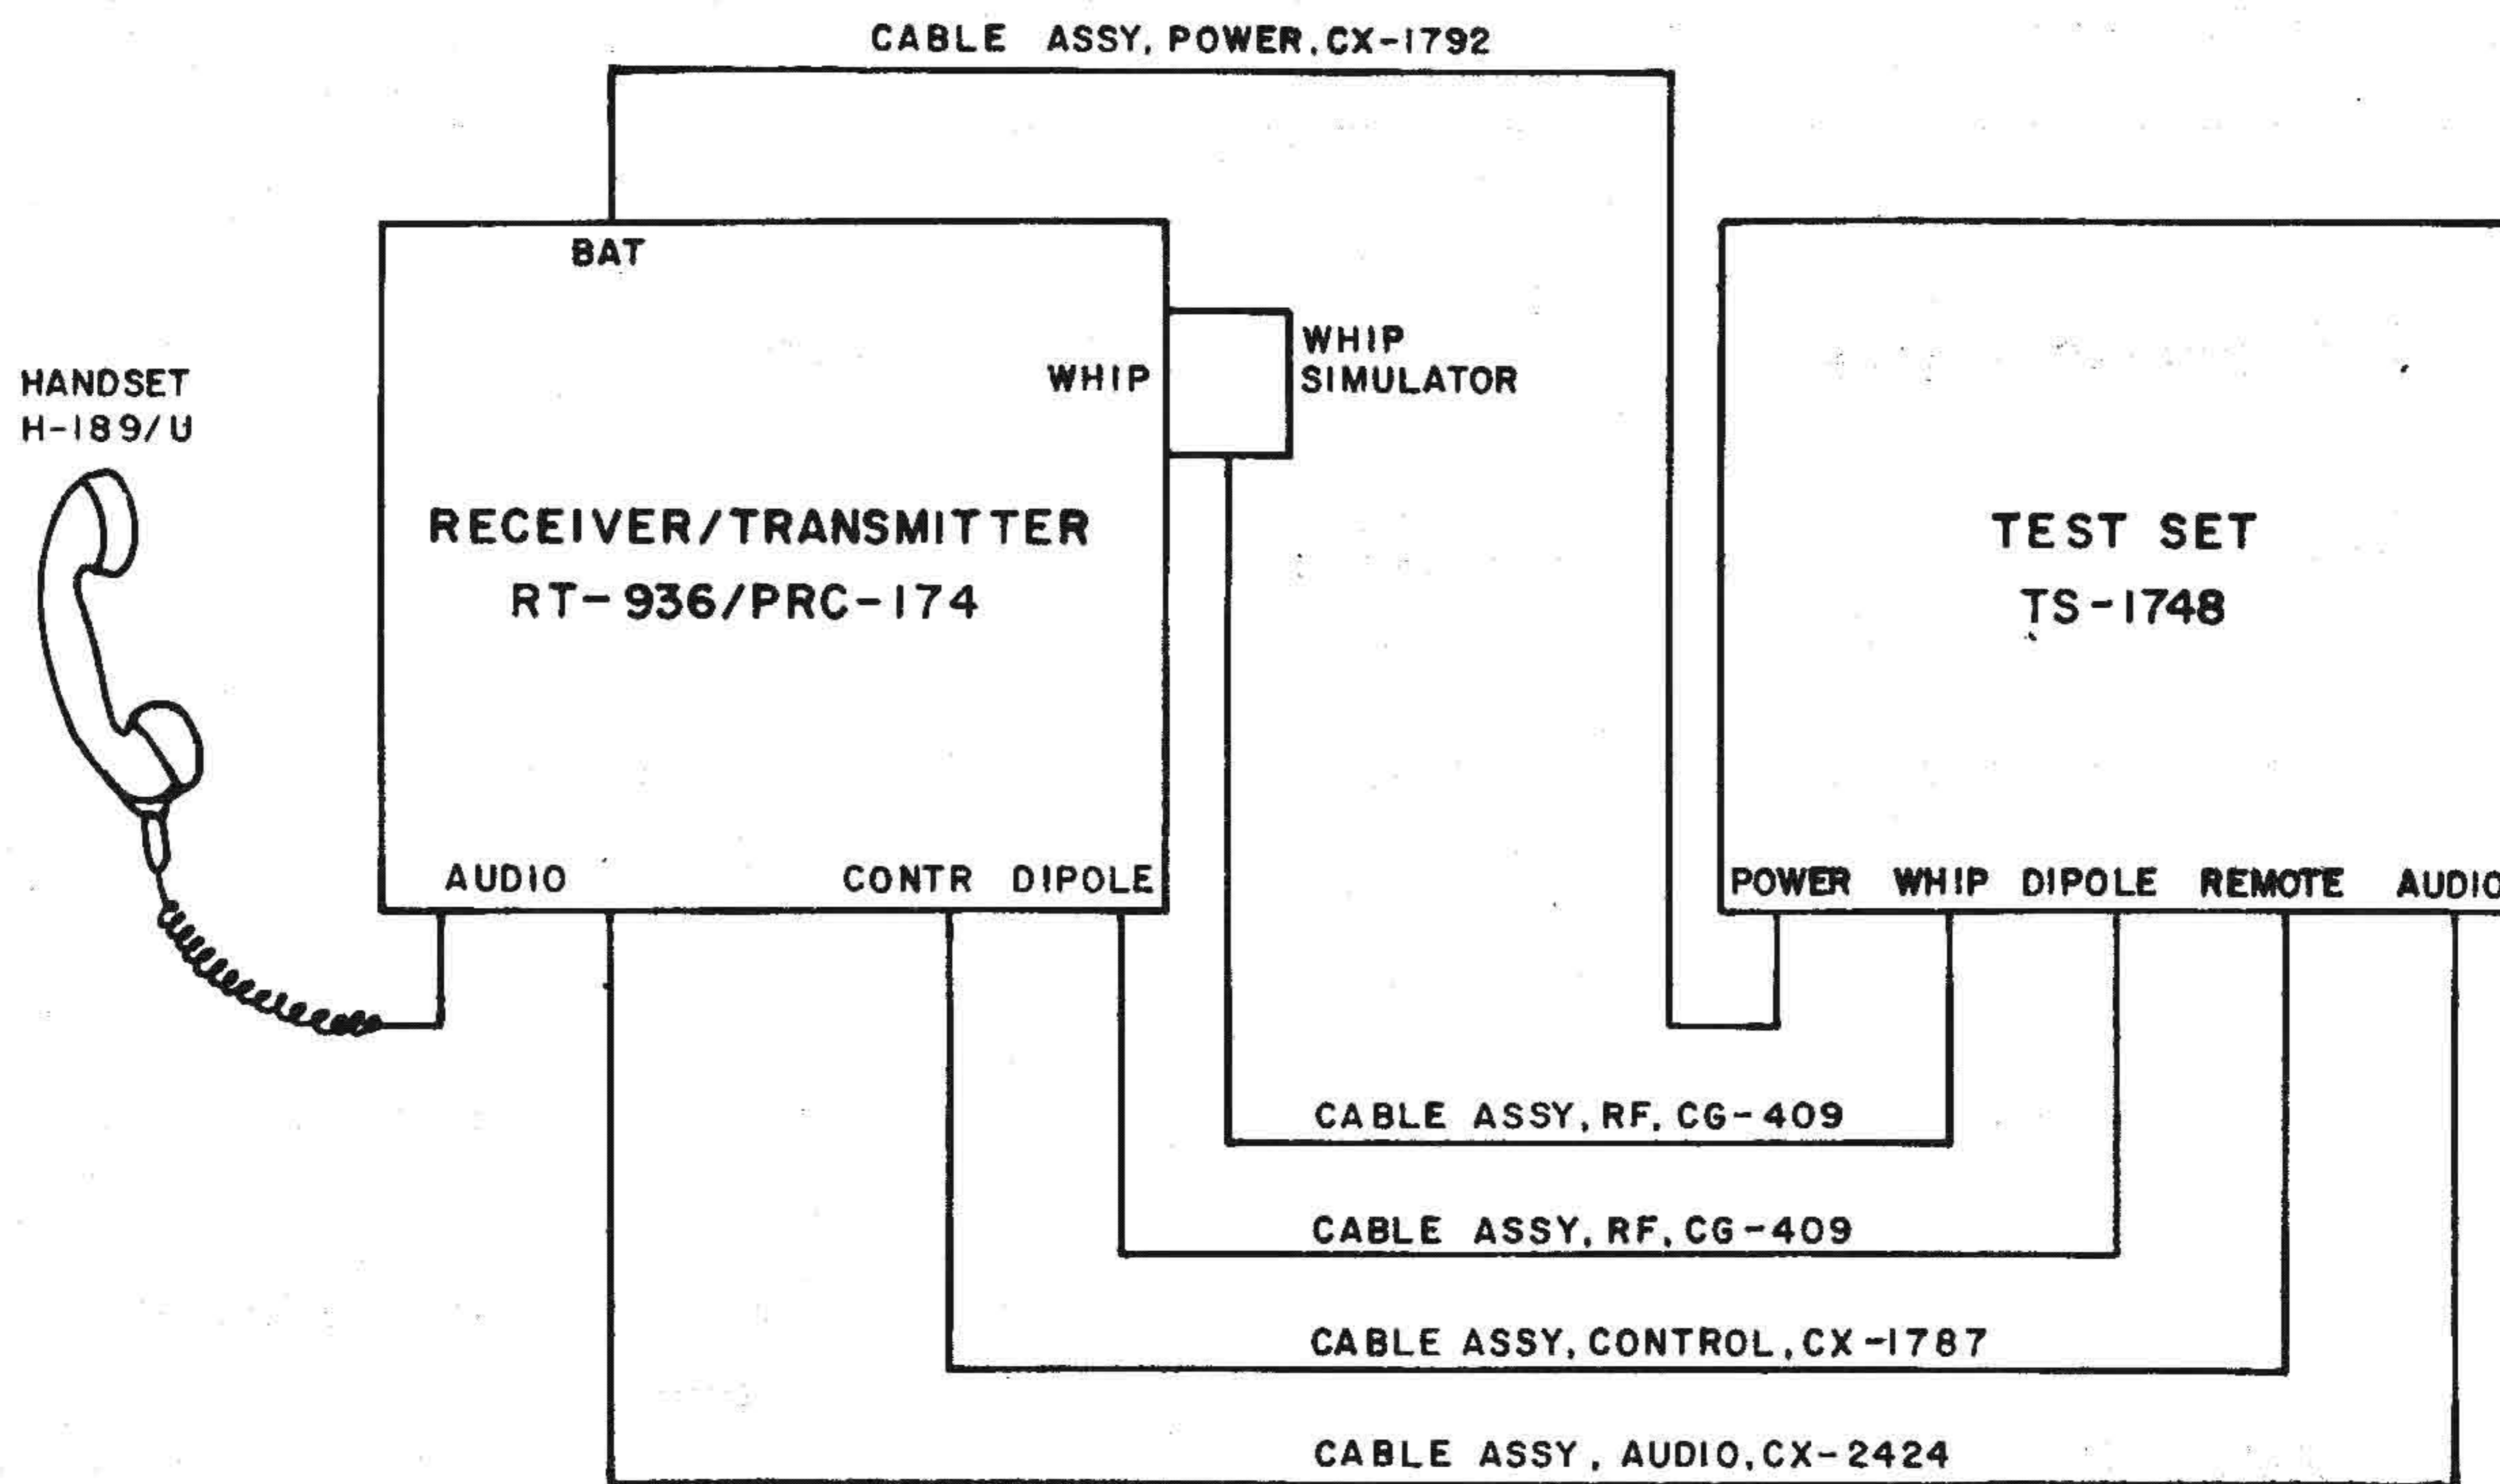

Figure 3-3. Test set-up for RT-936/PRC-174 using TS-1748
3-6. Preparation for Testing (fig. 3-3)
a. Test Set-up (fig. 3-3).